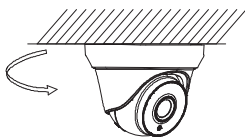

Figure 2-5 3-axis Adjustment
6. Adjust the camera according to Figure 2-5 to get optimum angle.